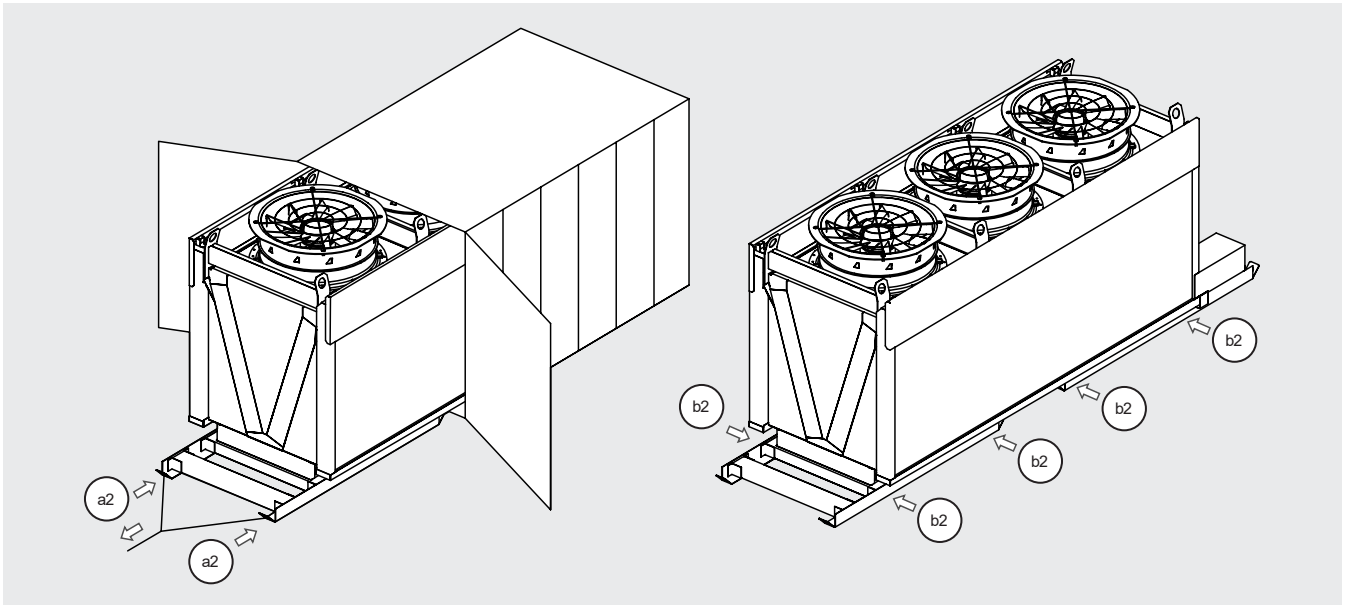

Figure 6
5.7 If the model has been shipped within a container, use the two eyebolts (a2) to pull the model out. Pull slowly without jerking. Use a forklift truck (positioned at the side) or equivalent to pull the model out of the container. Unscrew bolts (b2) to free the slide. See Figure 6.